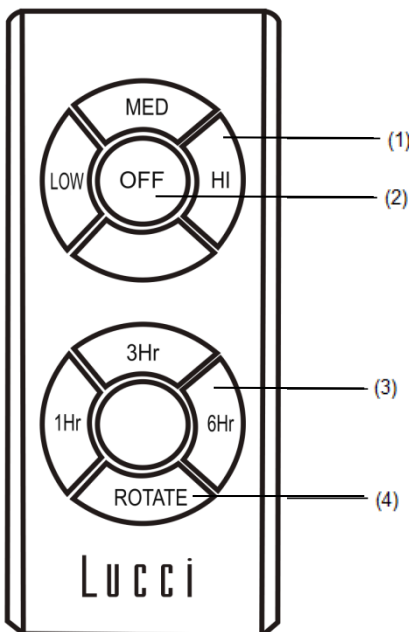

Fig. 14
- Remove the screw (6) and Pull out the battery tray (2) by pressing the clip (1) and pulling out the battery tray together.
- Place the battery (3) on the tray and insert the tray back to remote hand set (4) indicated by "+" polarity symbol (5).
- Reinstall the screw (6) to secure the battery tray (2).
**OPERATION OF THE REMOTE CONTROLLER (Fig.14)**